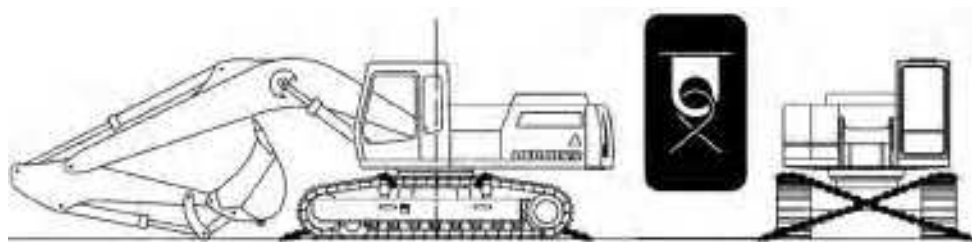

Fig. 3-137 To secure the machine
- ▶ Secure the machine at the points provided for the purpose using tension cables or tension chains (siehe Fig. 3-137). The loading points are identified on plate 45